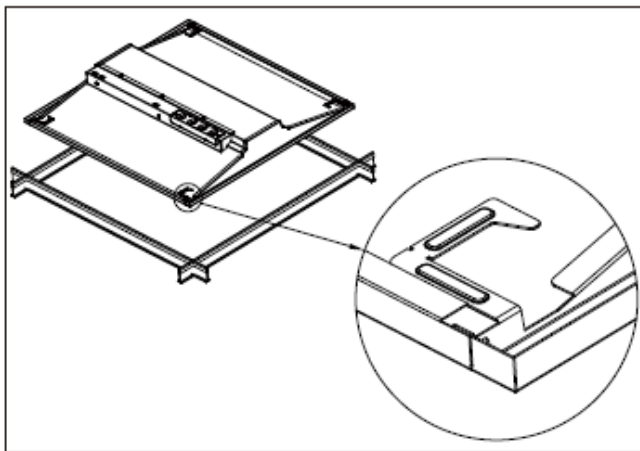

Figure 2.
5. Pass fixture through the grid at a 45 degree angle and lay fixture into the grid (Fig. 2).
**NOTE:** Fixture weights are below. Ensure grid location is rated for fixture weight before moving to next step. If unsure, use cable to support fixture to appropriate support beam above fixture using the circular holes in the corner tabs (Fig 2).